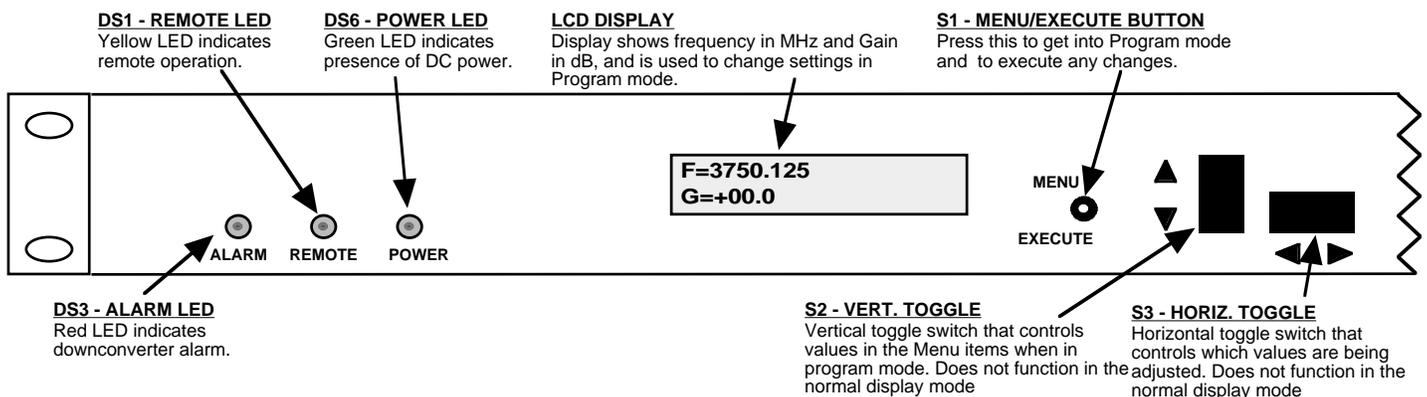

FIGURE 2.3 2016-37-140 Front Panel Controls and Indicators
Figure 2.3 shows the front panel controls and indicators.
6. Be sure DS6 (green, DC Power) is on and DS3 (red, Alarm) is off (Figure 2.3).
Alarm indications appear on the LEDs (see figure 2.3).